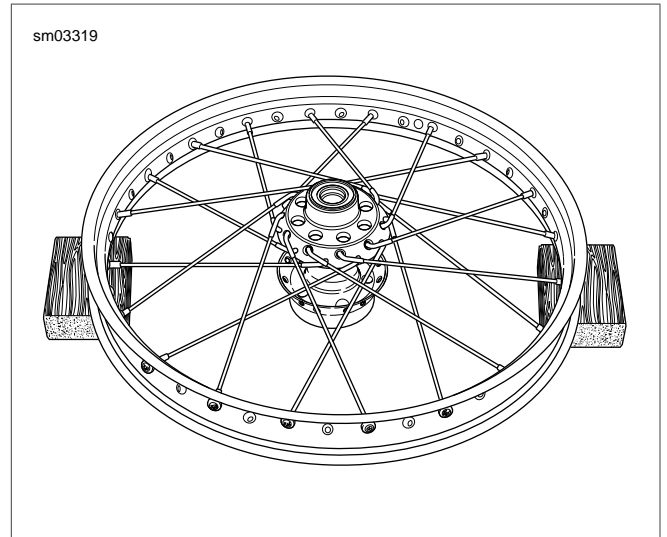

Figure 2-48. Upper Row Spokes Completed
6. See Figure 2-48. Install the remaining nine upper row spokes into every fourth remaining hole above the rim centerline. This completes spoke installation on this side.